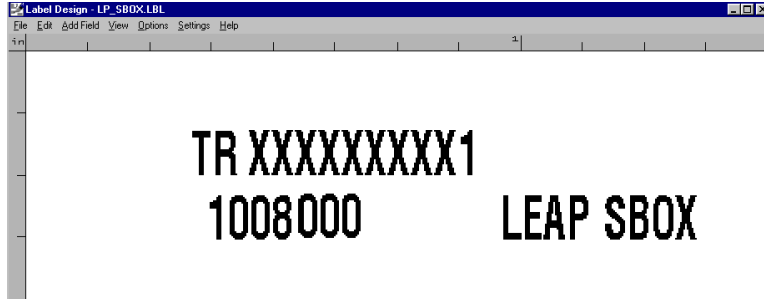

Figure 1-11
1.18.2. Click outside the box, and all the fields will be deselected. (Figure 1-11)